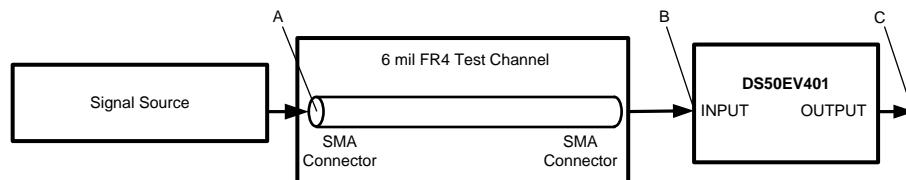

Figure 2. Test Setup Diagram
- (4) V_{IN-S} is a measurement of the input differential envelope, see FR4 / BACKPLANE Typical Performance Eye Diagrams. The device does not require an open eye.
- (5) Specification is ensured by characterization at optimal MODE setting and is not tested in production.
- (6) Measured with clock-like {11111 00000} pattern.
- (7) Specification is ensured by characterization at optimal MODE setting and is not tested in production.
- (8) Deterministic jitter is measured at the differential outputs (point C of Figure 2), minus the deterministic jitter before the test channel (point A of Figure 2). Random jitter is removed through the use of averaging or similar means.
- (9) Random jitter contributed by the equalizer is defined as $\sqrt{J_{OUT}^2 - J_{IN}^2}$. J_{OUT} is the random jitter at equalizer outputs in ps-rms, see point C of Figure 2; J_{IN} is the random jitter at the input of the equalizer in ps-rms, see point B of Figure 2.